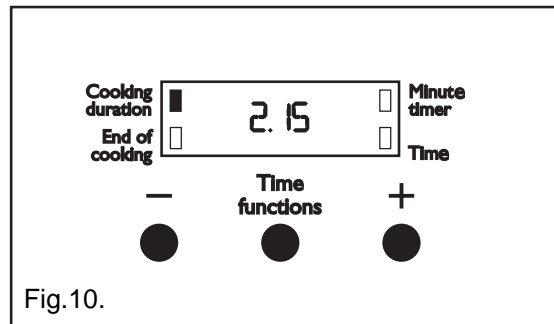

Fig.10.
- 3) To set the length of cooking time, press the Time functions control button until the 'Cooking duration' indicator neon is illuminated. Press the increase control (+) until the required length of cooking time is displayed, e.g. 2 hrs 15 mins as Fig. 10. Depress the decrease control (-) if necessary.